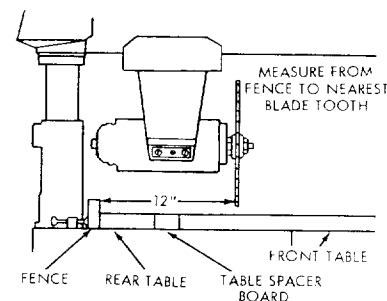

Figure 39
- The "Out-Rip" scale indicator on the left-hand side of radial arm is adjusted in essentially the same manner as the "In-Rip" indicator, except the fence should be at extreme rear and the blade positioned as shown in figure 39. With 12 inches measured between the
NOTE: With the saw blade and fence in the position shown in figure 39, the upper portion of the "Out-Rip" scale is used. If the fence is moved to normal position (at the rear of front table) the lower portion of the "Out-Rip" scale is used.